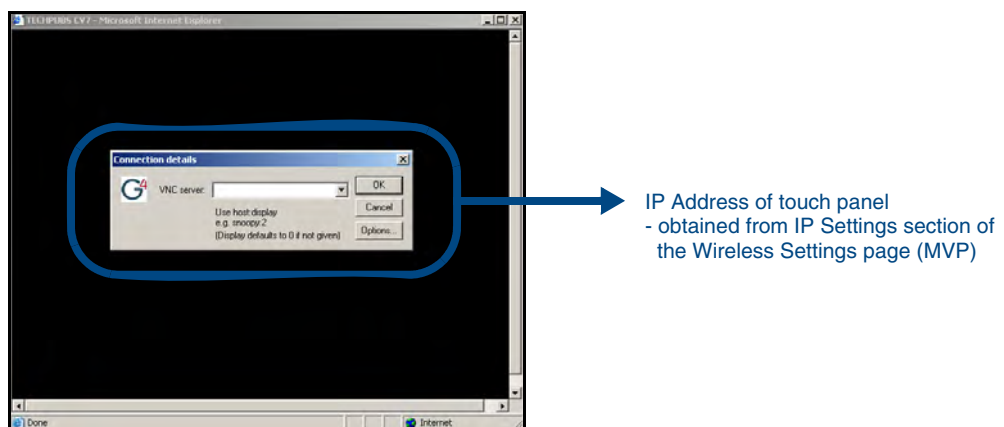

FIG. 35 Connection Details dialog
- In some cases, you might get a *Connection Details* dialog (FIG. 35) requesting a VNC Server IP Address. This is the IP Address not the IP of the Master but of the target touch panel. Depending on which method of communication you are using, it can be found in either the:
- 10.** Enter the Web Control session password into the *Session Password* field (FIG. 35). *This password was previously entered into the Web Control Password field within the G4 Web Control page on the panel.*